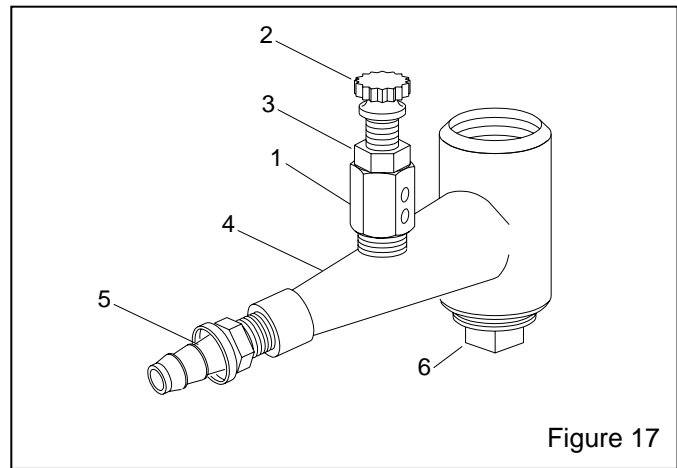

Figure 17
8.5 Metering valve assembly, Figure 17